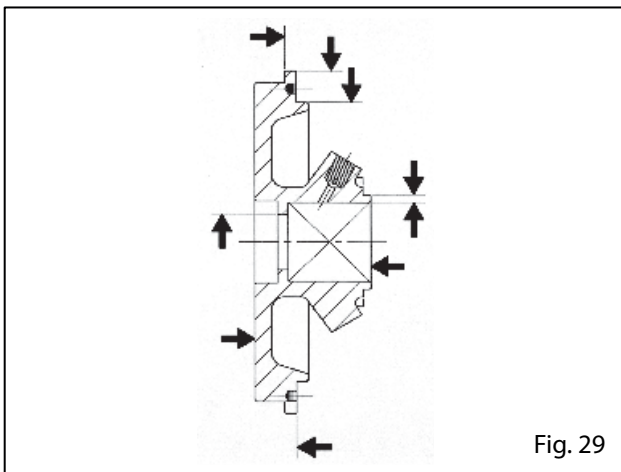

Fig. 29
- When inspecting the seal plate should check the packing chamber is cleaned and does not have excessive corrosion, in addition review the area of the flat place that makes direct contact with the volute's inside should be replaced if you have any crack or more wear than 1/8" deep (see Figure 29).